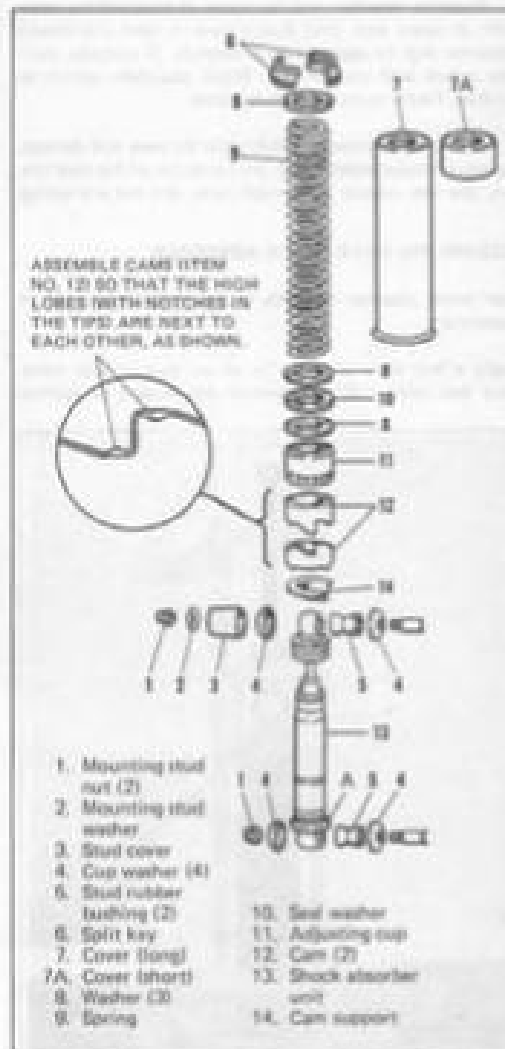

Figure 2-38. Later Rear Shock Absorber - Exploded View
DISASSEMBLING REAR SHOCK ABSORBER (Figure 2-38)
Remove top and bottom mounting stud nut (1), mounting stud washer (2), upper stud cover (3) and cup washer (4). Slip shock absorber assembly off upper and lower studs. Push rubber bushings (5) from shock absorber mounting eyes. Place shock absorber in Rear Shock Absorber Tool, Part No. 87010-52A with split key (6) up. Compress absorber spring enough to remove each half of split key (6) from flange on shock eye as shown in figure 2-38. Release spring compression and remove absorber assembly from tool. Remaining items can be removed in order shown in figure 2-38.
cam lobes correctly as shown in figure 2-38 inset. Place assembly in compressor tool and compress spring enough to install key halves (6). Release spring compression. Keys will lock into place in inside diameter of covers 7 or 7A.
Install each shock absorber on motorcycle with slot in cam support (A, figure 2-38) facing toward wheel.